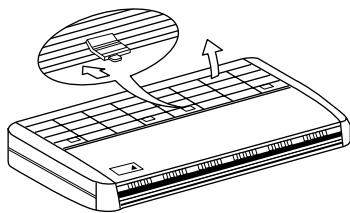

Fig. 3
- Slide the suction grille fixing knobs (2 parts) backward (arrow direction) and open the suction grille widely. (Refer to Fig. 3)